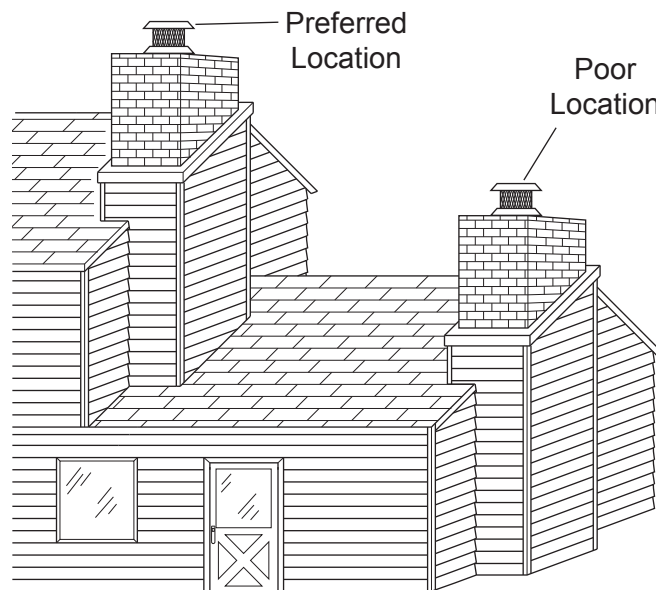

Figure 4 - Preferred Chimney Location
- Do not install where the chimney cap will be near abrupt changes in the roof shape, nearby wall or embankments, under or near trees or above the roof of a single story wing of a two story building. *See Figure 4.* Any of these conditions may cause turbulence or pressure condition which may create poor chimney draft and smoke spillage from the fireplace opening into the home.